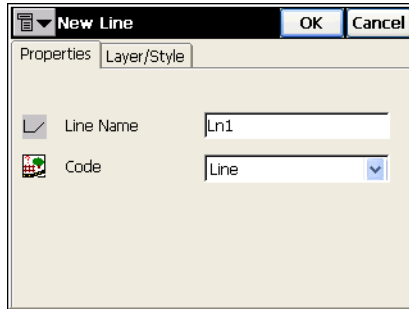

Figure 4-16. New Line Properties
- New Line – When this option is selected, the *New Line* screen displays (Figure 4-16 on page 4-12), which accepts property and plotting information pertaining to the new line. TopSURV allows for the creation of as many new lines as are codes selected for the point (the *New Line* screen displays as many times as there are codes selected, or just once if no code is selected). The current point would then be a part of all these new lines, as will the subsequent points.